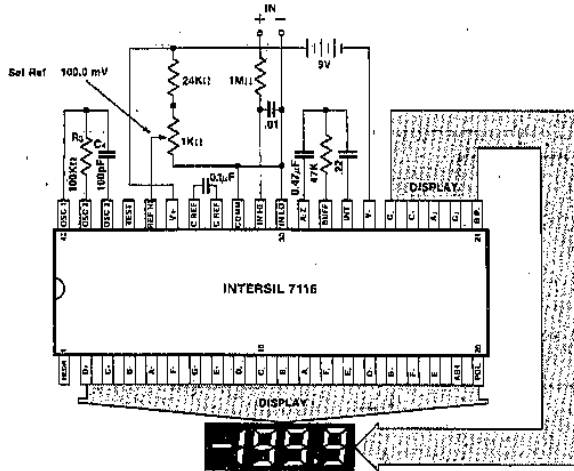
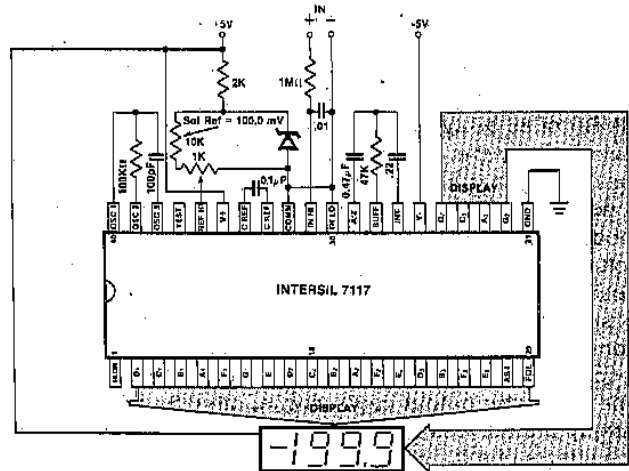

Figure 1: 7116
Figure 2: 7117
**Note 3:** Unless otherwise noted, specifications apply to both the 7116 and 7117 at  $T_A = 25^\circ C$ ,  $f_{clock} = 48kHz$ . 7116 is tested in the circuit of Figure 1. 7117 is tested in the circuit of Figure 2.